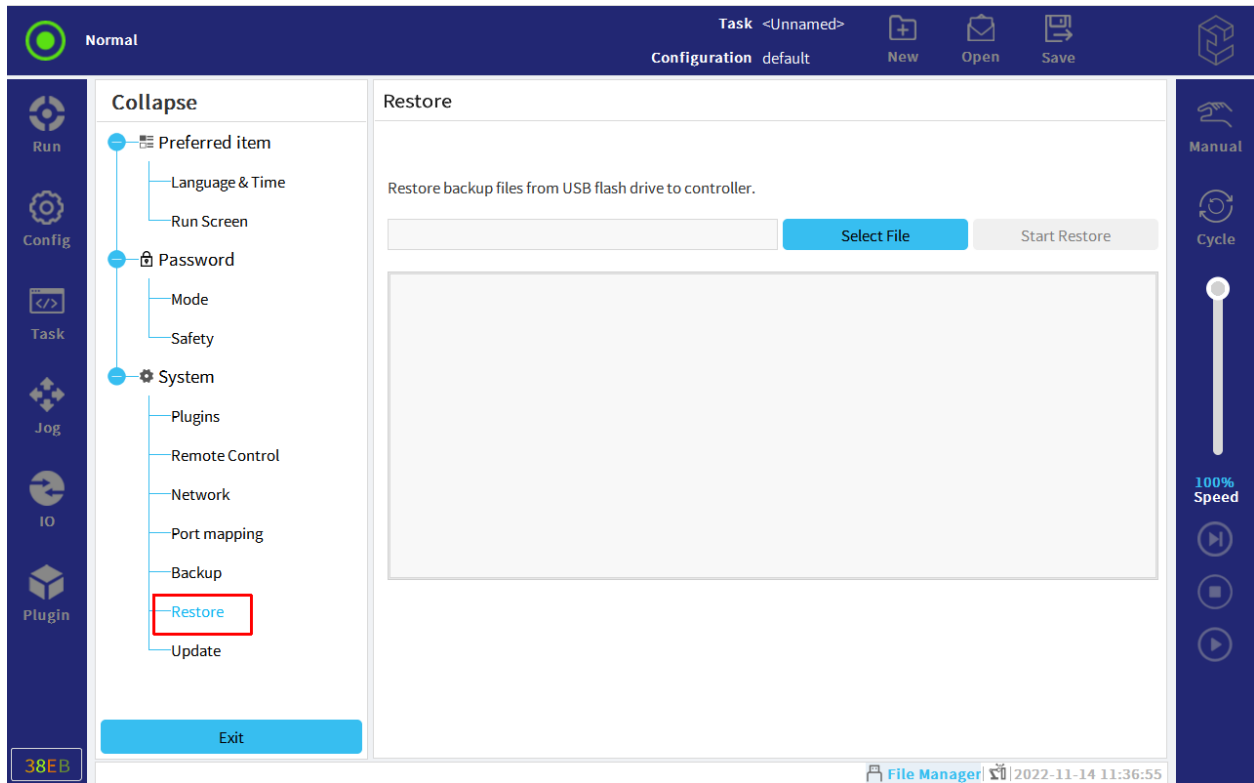

Figure 9-7 Restore
2. Select "Settings > System > Restore", as shown in Figure 9-7.